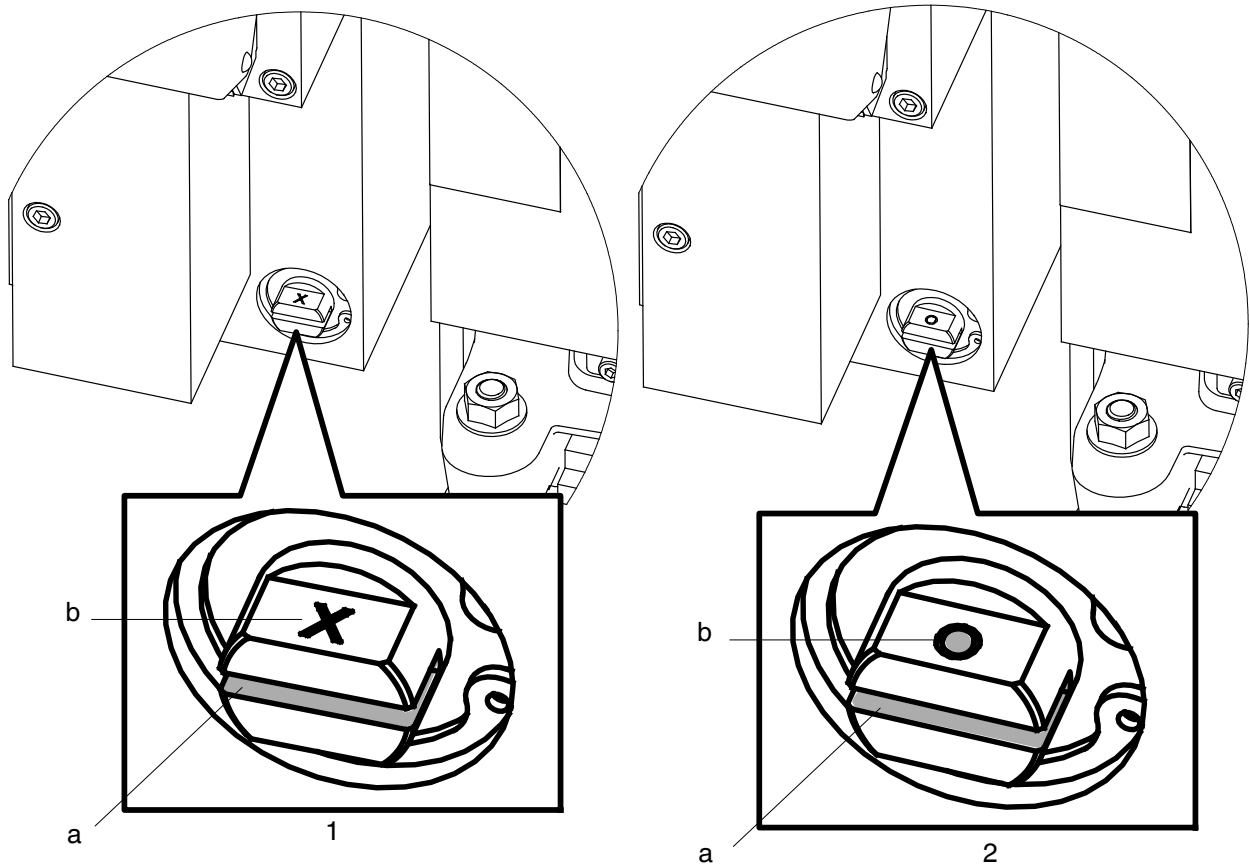

Figure B-2 Isolation valve close/open slots locations
5. If the pump cannot be used to pump out the contents of the tank, rotate the isolation valve at the front of the manifold to the closed position (**X**, see Figure B-2). Then remove adhesive from the tank until the level is below the top of the manifold. This can be done with a ladle or similar tool.
To make sure that the isolation valve is closed, the slot must be positioned horizontal with the “X” mark visible. See item 1 in Figure B-2.
To make sure that the isolation valve is open, the slot must be positioned horizontal with the “O” mark visible. See item 2 in Figure B-2.